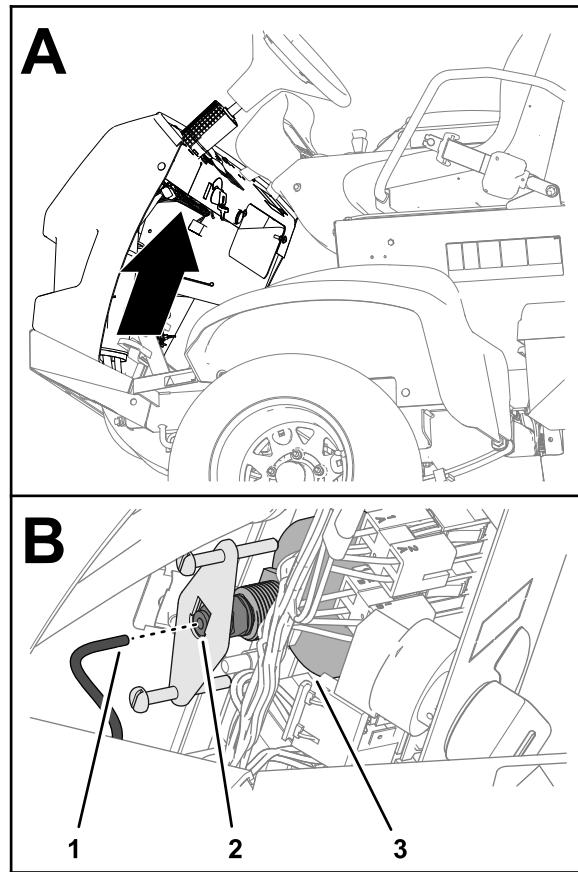

Figure 118
1. Insert the pressure-gauge tube into the tube coupler at back of the pressure gauge (Figure 118).